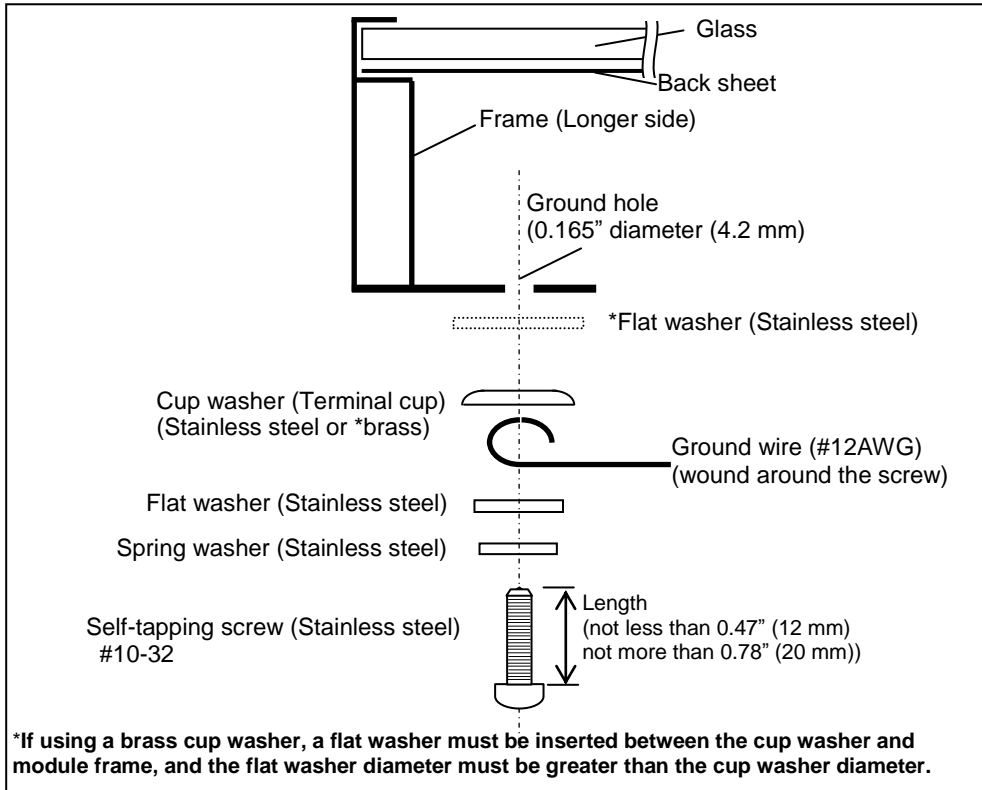

Figure 3.2 (Method 1)
- All the washers illustrated in Figures 3.2 and 3.3 are required as part of the grounding connection.
## Wire Connection Using Cup Washers (see Figures 3.2 and 3.3)
## Method 1 (See Figure 3.2)